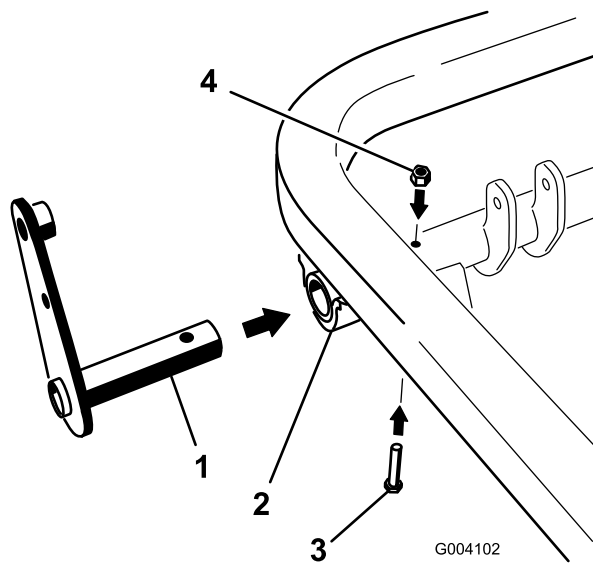

Figure 13
1. Slide the post on the lever assembly into the left end of the pivot tube, and secure it with a bolt (5/16 x 2 inches) and a locknut (5/16 inch) through the pivot tube (Figure 13).
3. Torque the center pivot bolt (item 4 in Figure 13) to 175 to 225 inch-lb (20 to 25 N-m).